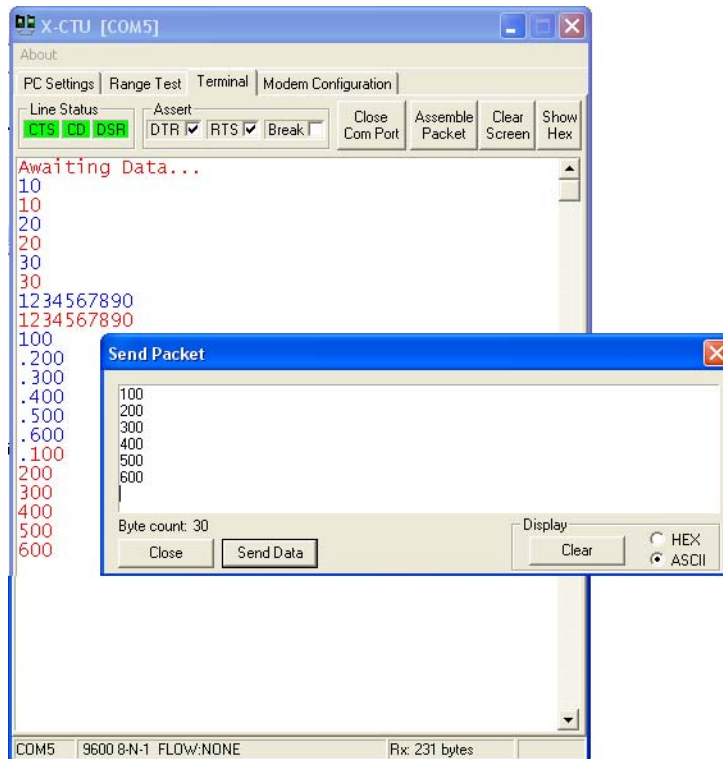

Figure 4-13: Receiving Simple Decimal Values
- ✓ Test sending decimal value in the X-CTU terminal window and the Send Packet window using carriage returns between values as shown in Figure 4-13. Note that no data is lost due to the speed of the Propeller and the buffering of the drivers.